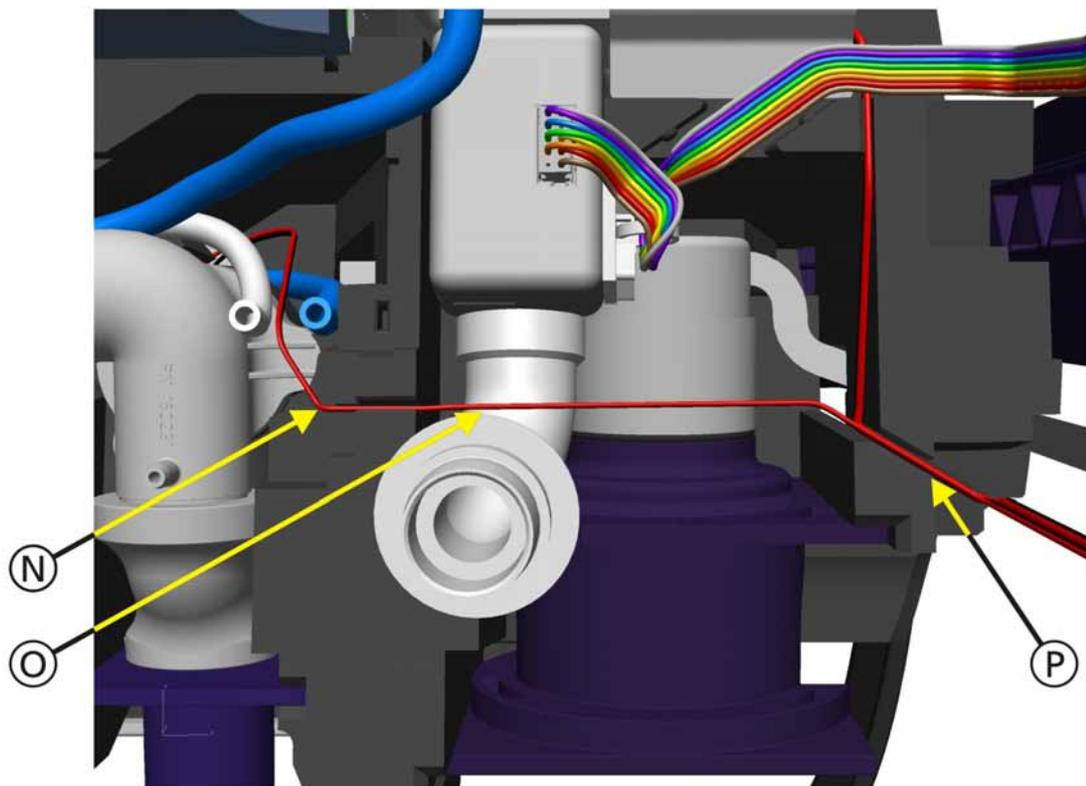

Figure 11-63. Inspiratory Valve, Qvent Flow Sensor and Ambient Valve Assembly, Step 4
- Figure 11-63, *Inspiratory Valve, Qvent Flow Sensor and Ambient Valve Assembly, Step 4*, on page 11-70